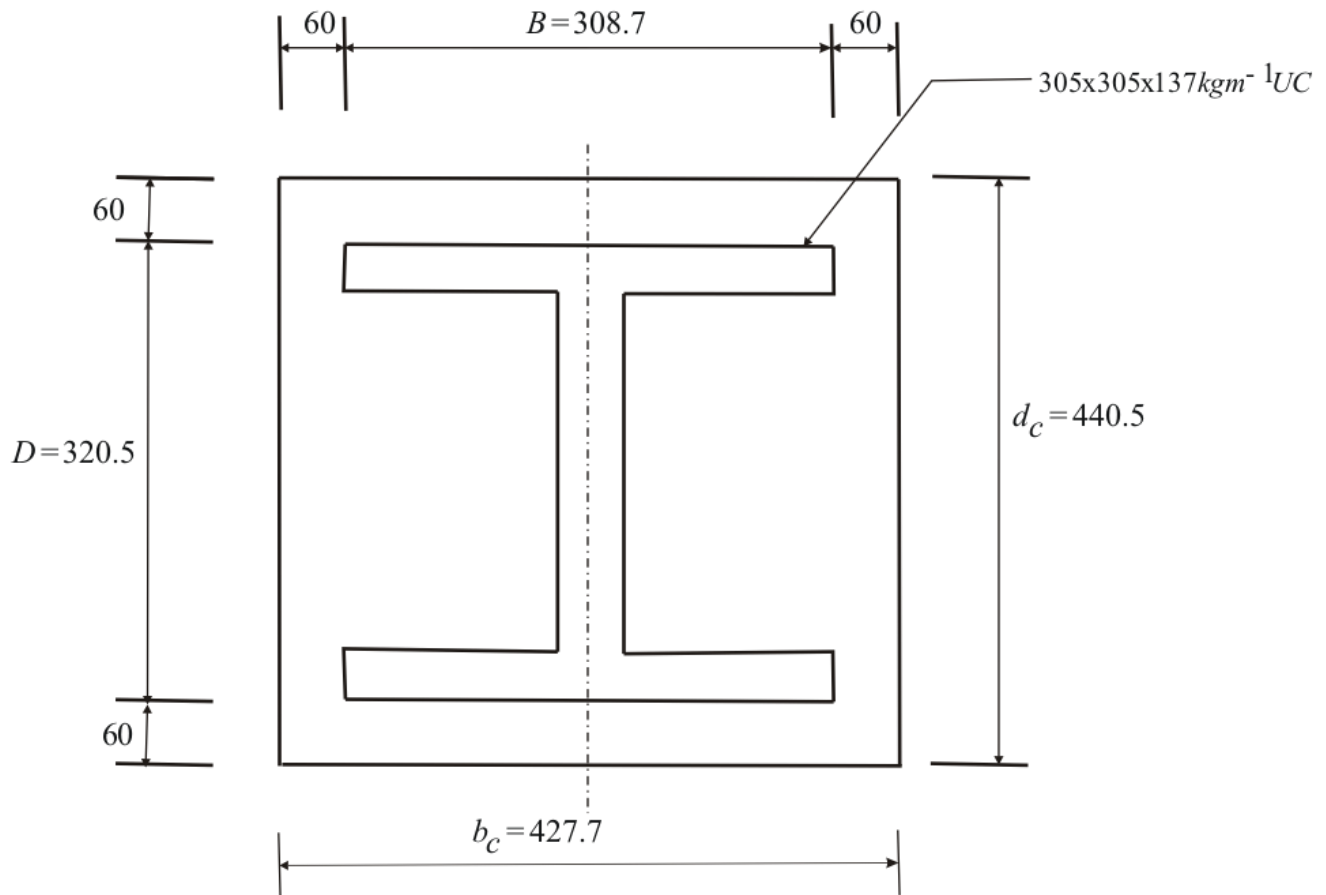

Figure. 2
b) Calculate the compressive resistance of $305 \times 305 \times 137 \text{ kgm}^{-1} \text{ UC}$ column shown in figure 2 if it is encased in concrete of compressive